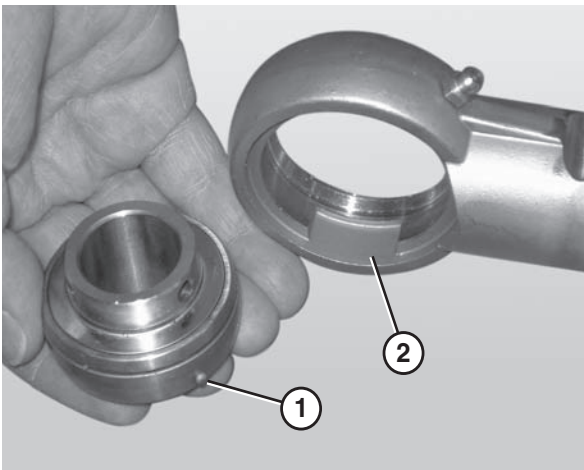

Figure 84
4. Remove the worn or damaged bearing (**Figure 84**).
*When inserting the new bearing, make sure the anti-rotation notch (**Figure 84, item 1**) on the bearing lines up with the groove inside the housing (**Figure 84, item 2**).*